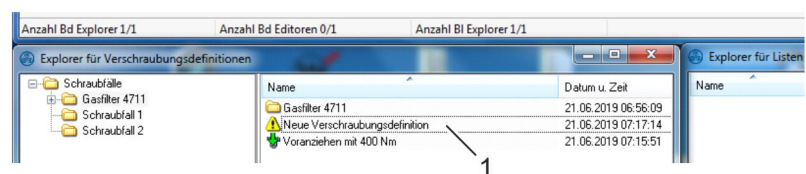

Fig. 27: Bolting definition browser
4. Double-click the file 'New bolting definition' (Fig. 27/1).